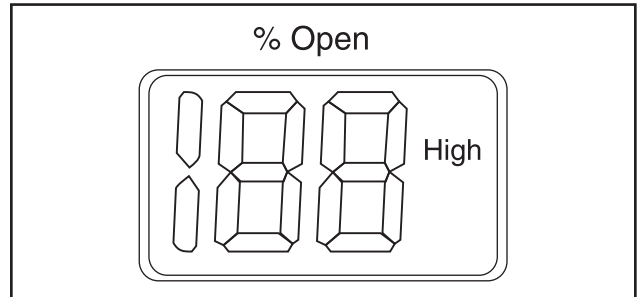

Figure 24
- **High** represents that ICAD is operating the ICM valve like an ON/OFF solenoid valve with high speed according to a digital input signal (Figure 24).